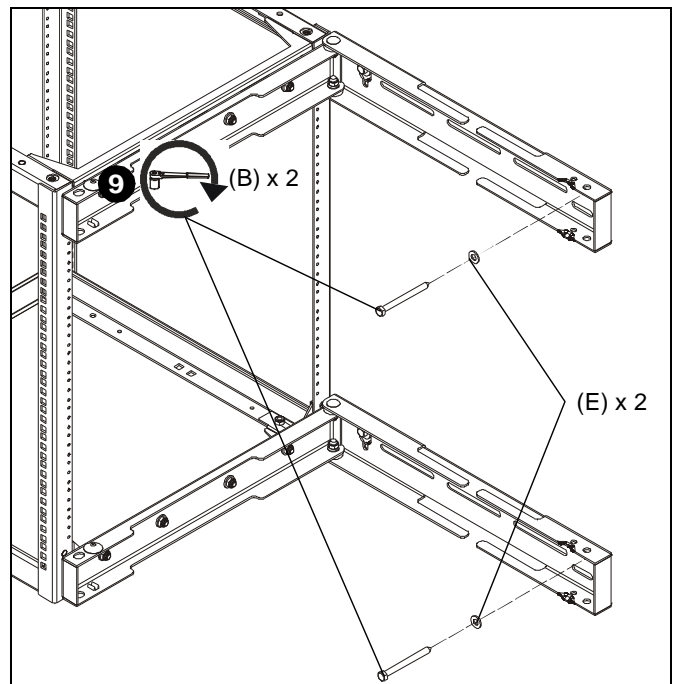

Figure 10
- Use two 5/16" x 3 1/2" lag bolts (B) and two 3/4" spacers (E) to secure opposite side of bracket to wall. (See Figure 10)